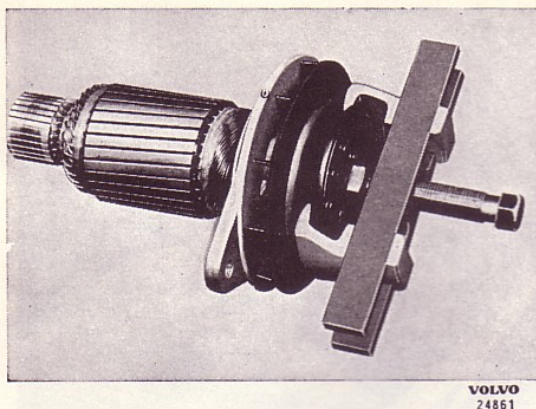

Fig. 24. Removing the belt pulley
6. Place the rotor in a vice but do not tighten too hard (use cooper jaws). Unscrew the nuts for the belt pulley and pull this off. Use a suitable tool as shown in Fig. 24. Remove the woodruff key.